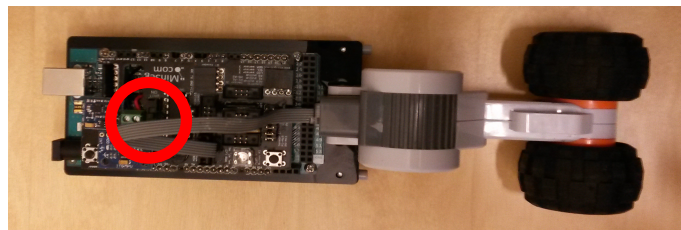

Figure 13: Batteries switch.
- the other is *Deploy to hardware* (**ctrl+B** from Simulink), for which the robot is loaded with some code that is continuously run as soon as the board is powered. In this situation you turn off the robot either temporarily by pressing the reset button (but when you release the robot will re-initialize its computations and start again), or by removing the power to the board (i.e., by disconnecting the USB cable and turning off the switch for the batteries highlighted in Figure 13).
2. turn on the batteries switch (i.e., towards “batt on”, see Figure 13);